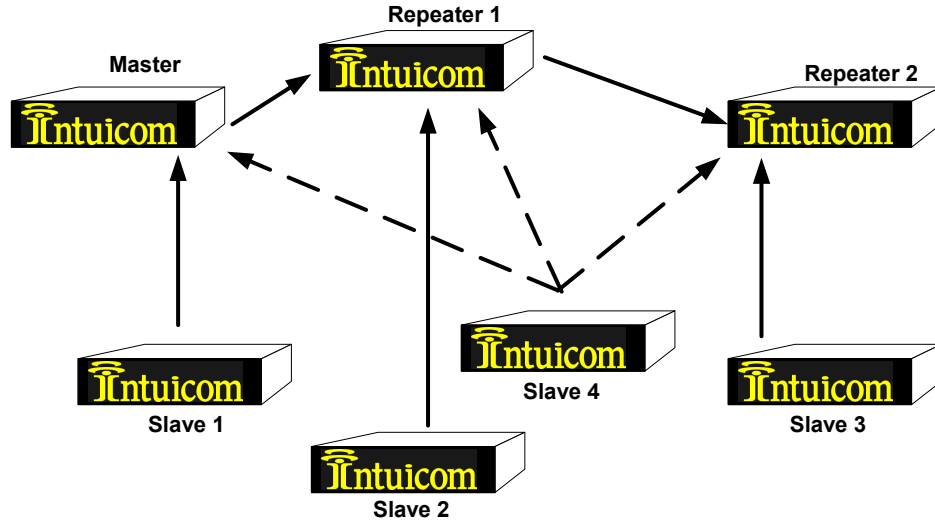

Figure 6-2: Multipoint Subnet Diagram
**Figure 6-2** below depicts a Multipoint Network in which the Subnet ID is used to force communications along specific paths. In this example Repeater1 *must* talk directly to the Master, and Repeater2 *must* talk directly to Repeater1. Communications for Slaves 1, 2,